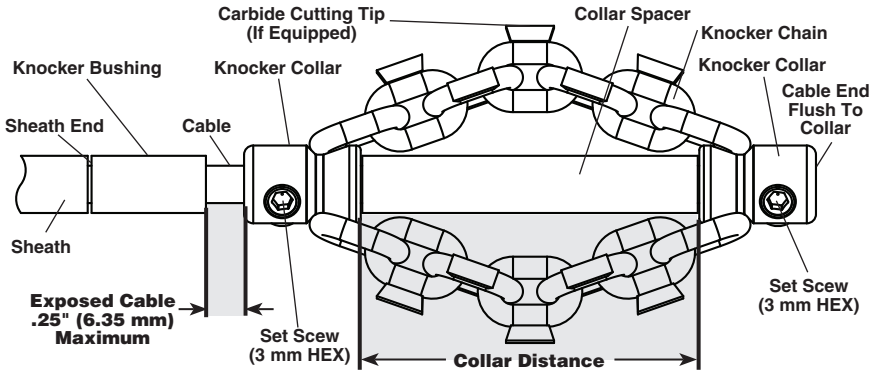

Figure 7 – Chain Knocker Installation/Adjustment
2. *Figure 7* shows a schematic of proper chain knocker installation and adjustment.
- Test fit the chain knocker, knocker bushing and collar spacer on the cable as shown in *Figure 7*. Chains should be straight – do not assemble with chains twisted. To prevent excessive cable end wear, cable end should be flush with the end of the collar.
- With the chain knocker correctly installed on the cable as shown in *Figure 7*, use the supplied hex wrench to securely tighten the collar set screws. If the set screws are not secure, the chain knocker could slip and damage the cable or be lost down the drain.